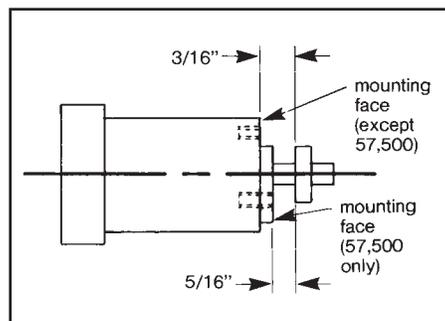

Figure 3
- Use a key (not supplied) tight fitting and full axial length of hub (16). Slide hub on shaft positioning inboard face of hub about 3/16" from mounting face or at 5/16" for 57,500 Series. See Figure 3. Securely tighten both hub set screws (16S) with torque of 78 in-lbs on 1/4" and 156 in-lbs on 5/16". Recommended practice is to drill a set screw dimple into shaft, especially on vertical installation.